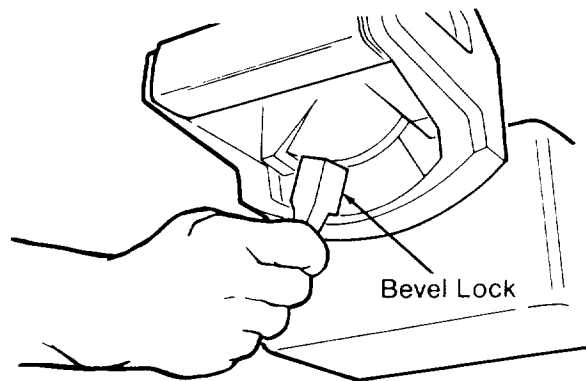

Fig. 37
11. Push the *bevel lock* to the left as far as it will go. (Figure 37)